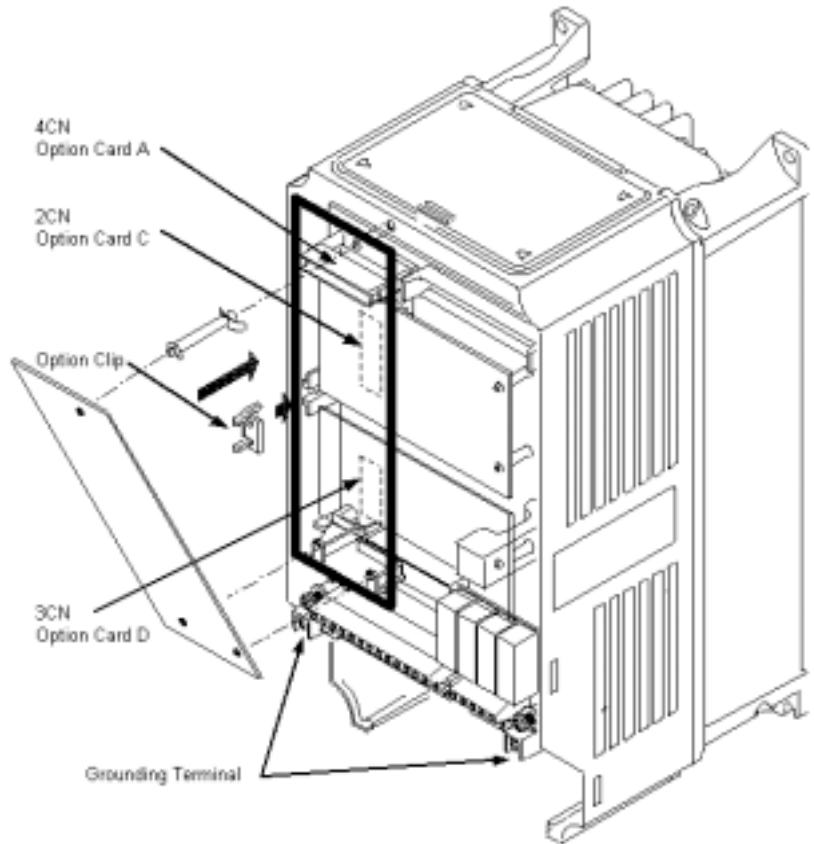

Figure 2. PG-W2 Option Card installation
- c. If other option cards are to be installed at the Option C (2CN) or Option D (3CN) positions (See Figure 2), their installation and wiring should be completed before installation of the PG-W2 card.
- f. Insert the spacer into the mounting hole in the base of the drive, just above the top edge of the control board. See Figure 2.
## 7. PG-W2 Installation: See Figure 2.